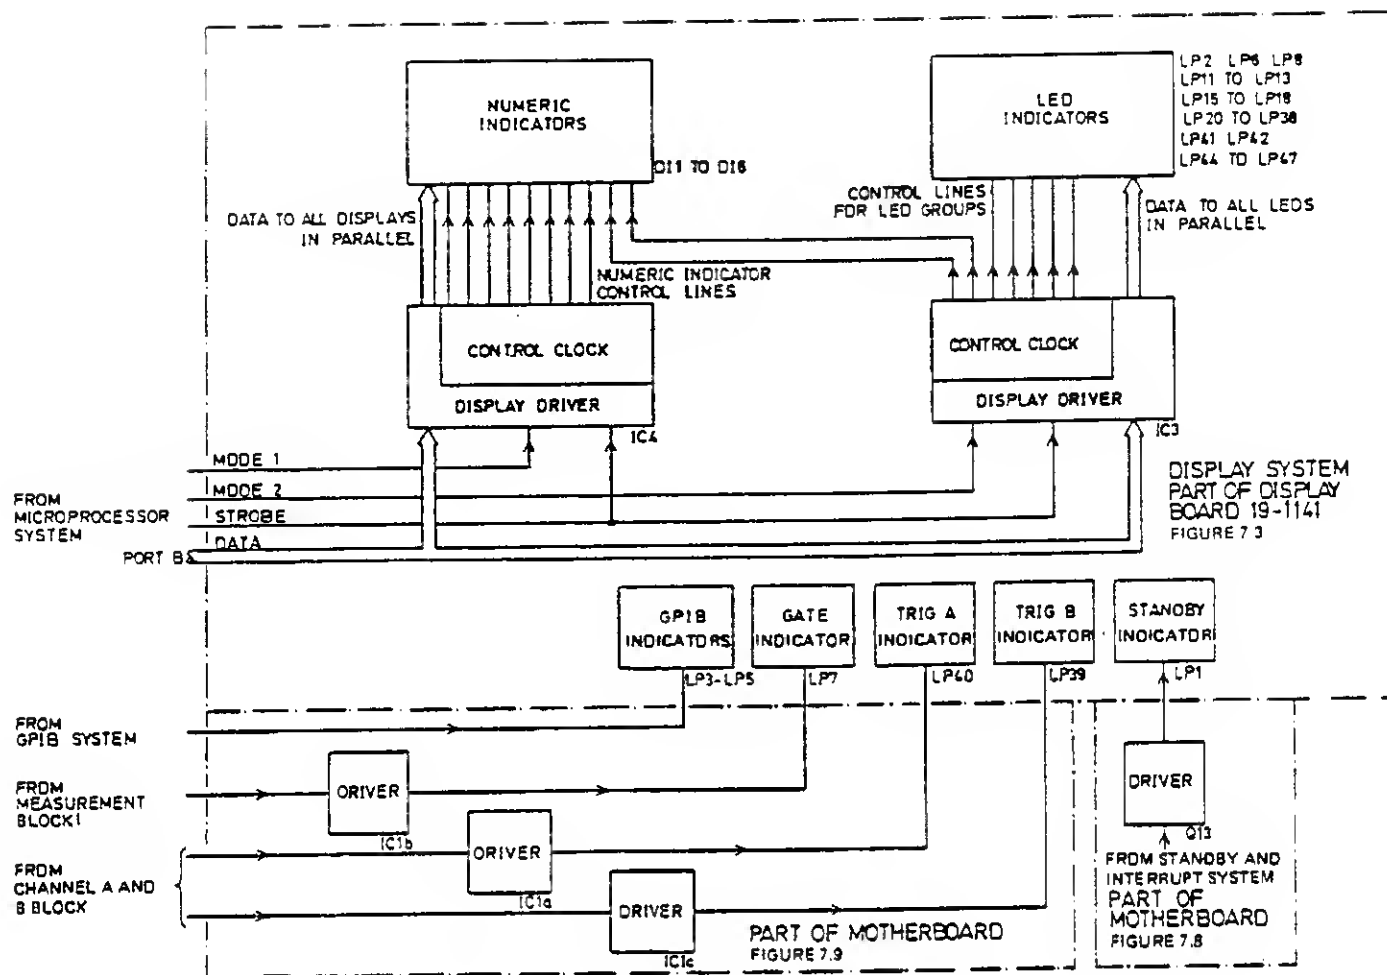

Figure 5.6 - Display-Block Diagram
5.3.4.1.1 A simplified diagram of the display block is given in Figure 5.6. The GPIB LEDs, GATE LED, Channels A and B TRIGGER LEDs, and the STANDBY LED are held on or off by control signals from other systems. The remainder of the display is multiplexed under the control of the display drivers.